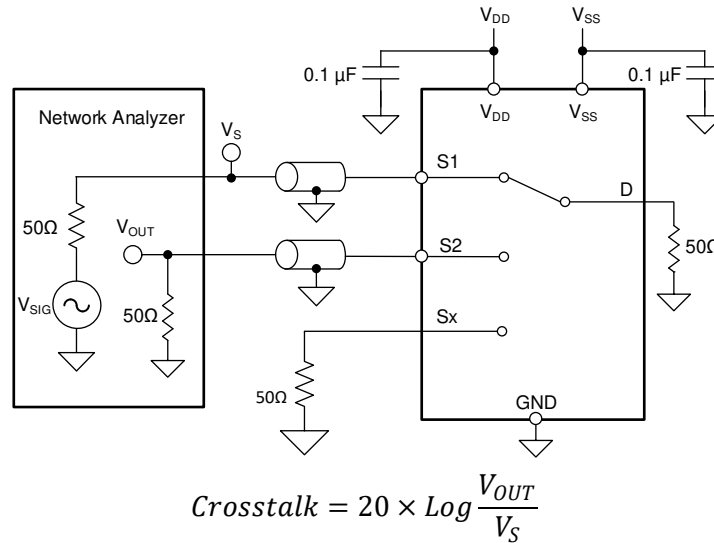

图 8-11. Crosstalk Measurement Setup
Crosstalk is defined as the ratio of the signal at the drain pin (D) of a different channel, when a signal is applied at the source pin (Sx) of an on-channel. 图 8-11 shows the setup used to measure, and the equation used to calculate crosstalk.